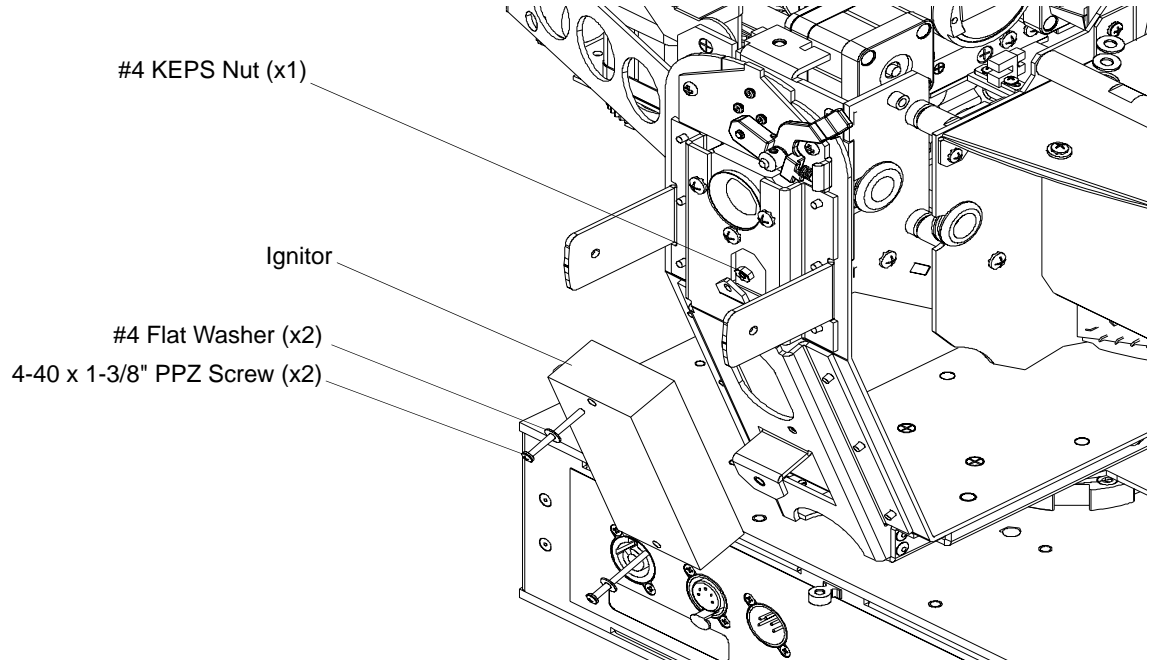

Figure 2-25: Ignitor Removal
Step 4. As shown in Figure 2-25, remove ignitor as follows: